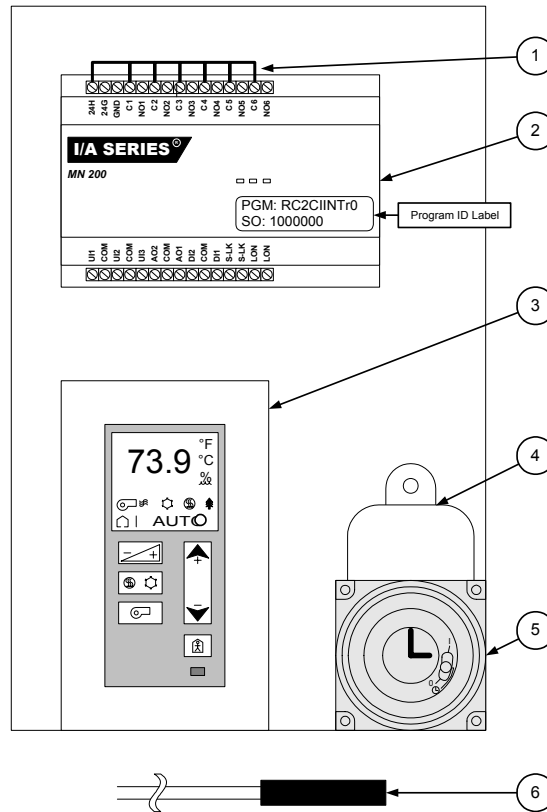

Figure 4
When ordering a replacement controller, it is necessary to provide information to determine which control program must be loaded into the controller. The factory can determine which program is needed from the complete unit model number and serial number; however, for quickest service, please provide the control program name (PGM) and original sales order (SO) number listed on the program ID label of the original unit controller. See figure 4 for the location of this label.